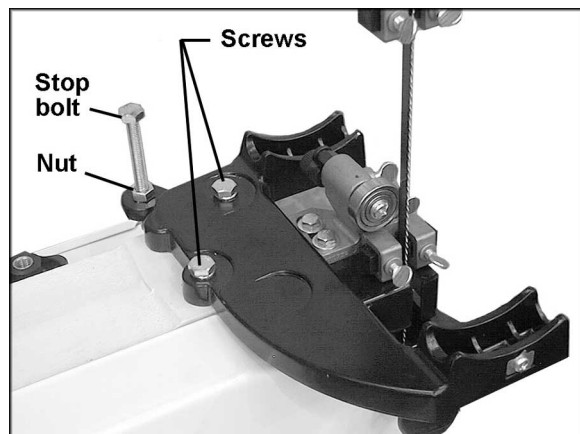

Figure 18
11. Attach trunnion support bracket to saw body with two M8 x 30 hex cap screws and two M8 lock washers, as shown in item D, page 8. See Figure 18.
12. Thread nut onto table stop bolt (Figure 18) and attach to trunnion support bracket as shown.